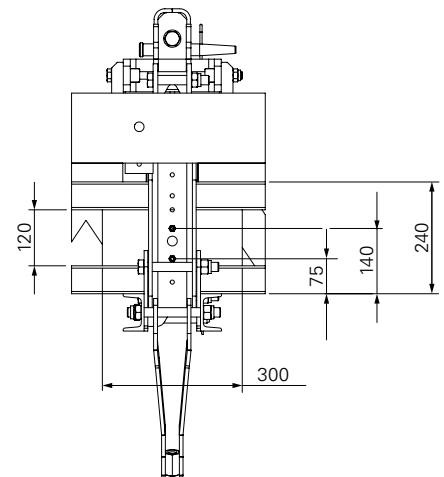

Fig. B1.10b
8. Position 2 lattice girders on the opposite side of the carriage (**2.11**) and pre-drill with $\varnothing 8$ mm, laterally spaced at distance c and below with 65 and 140 mm spacings. (Fig. B1.10b)